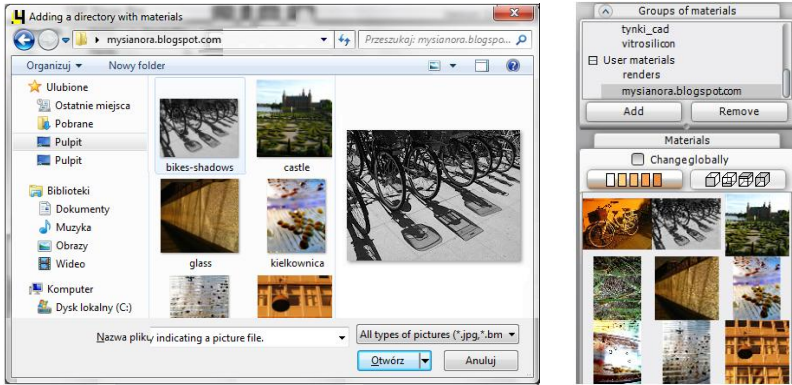

Fig. 338 – adding own picture files – indicating location and a new catalogue in User materials list
- click the **Add** button and indicate the location of a directory in which they are stored on the disk (Fig. 338 on the next page) (the pictures presented in the example are the property of the author of this manual);
- all files stored in this directory will be added to the **User materials** list in a new directory of the same name, as the original directory on the disk (Fig. 338);